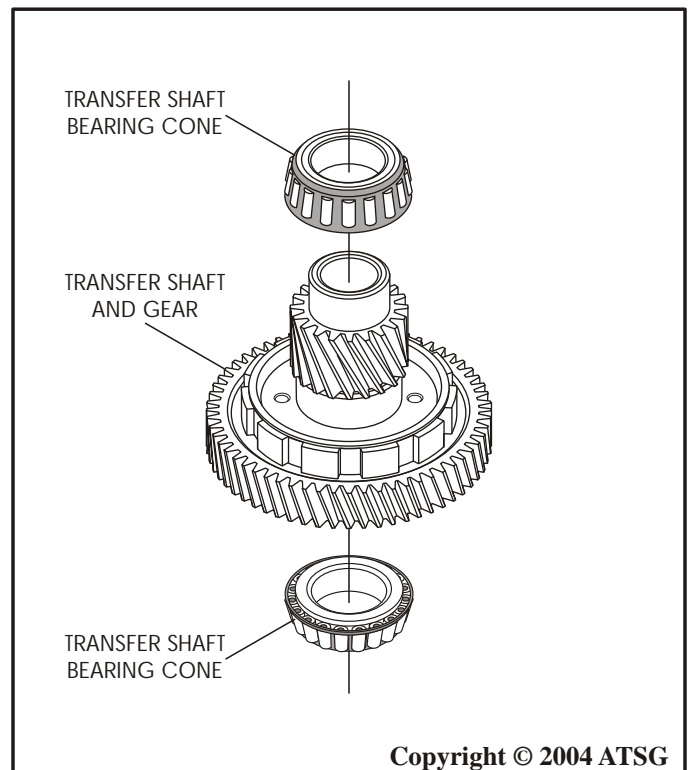

Figure 130
43. Remove and replace the two transfer shaft bearing cones, as shown in Figure 130, using the proper adapters and a hydraulic press.